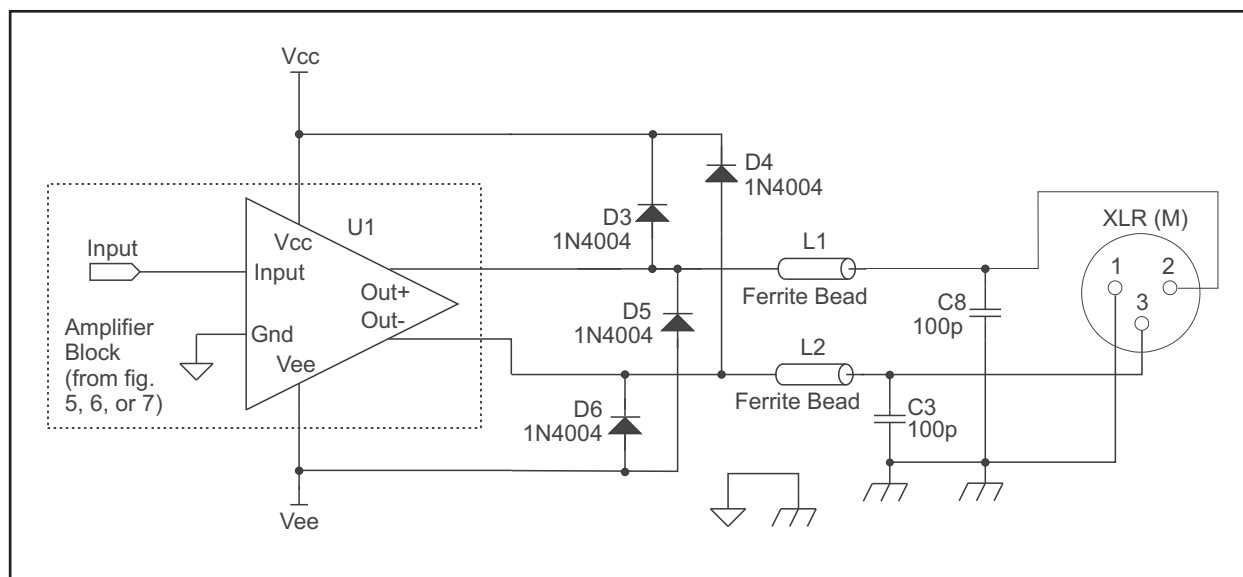

Figure 8. THAT 16x6 applications circuit with output common-mode offset protection, RFI protection, and surge protection
3. Please refer to Figure 8 for a complete applications circuit.
of Figure 8 includes two 100 pF bypass capacitors C3 and C8 and two ferrite beads, whose purpose is to redirect this RF energy to the chassis before it can circulate inside the product's box and couple RF into other portions of the circuit. The capacitors should be located as close as possible to the output connector and connected via a low-inductance path to chassis ground, with the ferrite beads placed very nearby. These components ensure that RFI current is directed to the chassis and not through the relatively low-impedance output of the 1606/1646. The bypass capacitors and ferrite beads will have no effect on the gain error of these line drivers at audio frequencies.
To protect against microphone preamplifiers that incorporate larger values of capacitance, a pair 1N4004 diodes from each output to the supply rails, as shown in Figure 8, is recommended. This shunts the discharge current to the power supply bypass and filter capacitors, thus protecting the output of the 1606 or 1646.